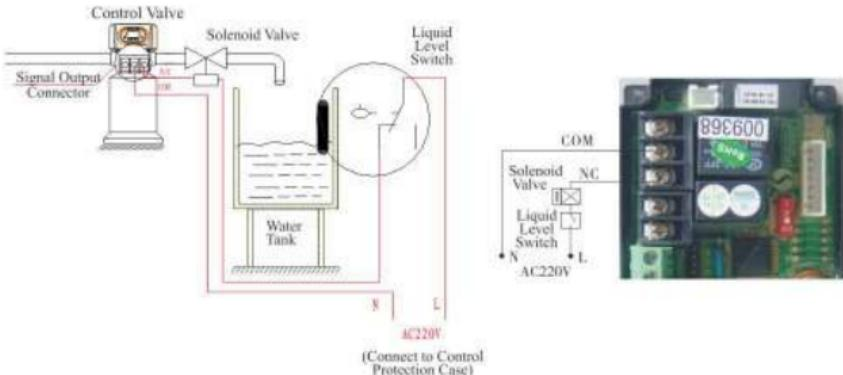

Figure 3-1 Wiring of Solenoid Valve on Outlet
① Solenoid Valve on Outlet Controls Water Level in Brine Tank.
**Instruction:** If system requires no hard water flowing from outlet in regeneration cycle (Mainly for no hard water flow out when valve is switching or valve in backwash or brine drawing status), a solenoid valve could be installed on outlet, the wiring refers to Figure 3-1.